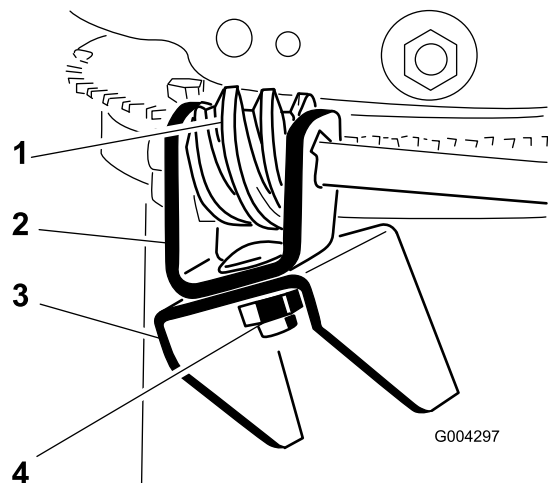

Figure 11
2. Apply No. 2 general purpose grease to the worm gear (Figure 11).
- Loosely mount the worm gear and the bracket to the mounting flange with a bolt, a Belleville washer, and a locknut as shown in Figure 11.
- Slide the worm gear into the teeth of the chute retaining ring and tighten the locknut (Figure 11).